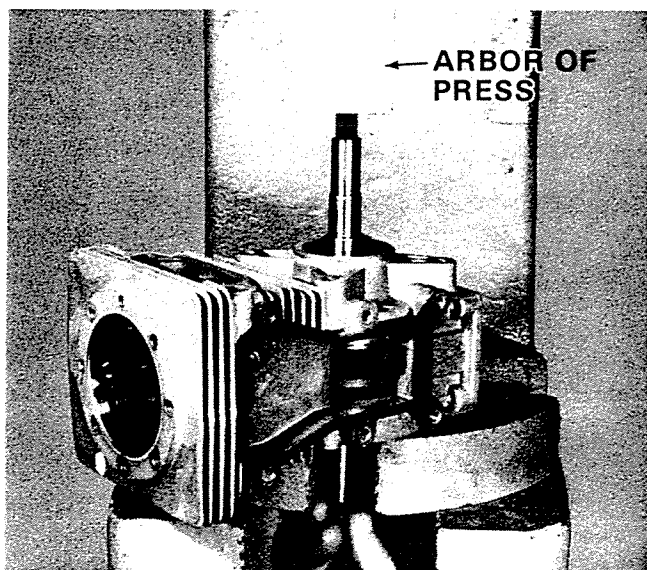

Figure 11. Removing Crankshaft.
- 12. Remove crankshaft with bearings from cylinder using an arbor press or by tapping end of crankshaft lightly with a plastic or rubber hammer. Figure 11.